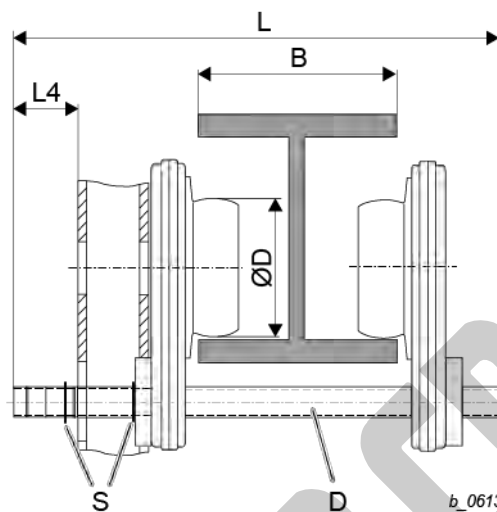
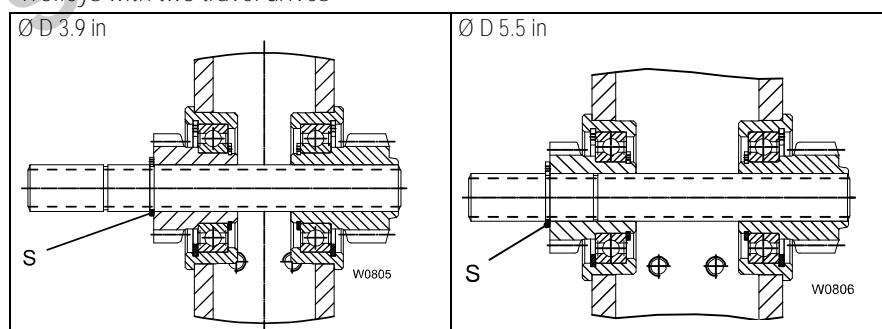

Fig. 21
Fig. 22
1. Mount lock washers **"S"** acc. To Fig.21 and Fig. 22. Drawings above